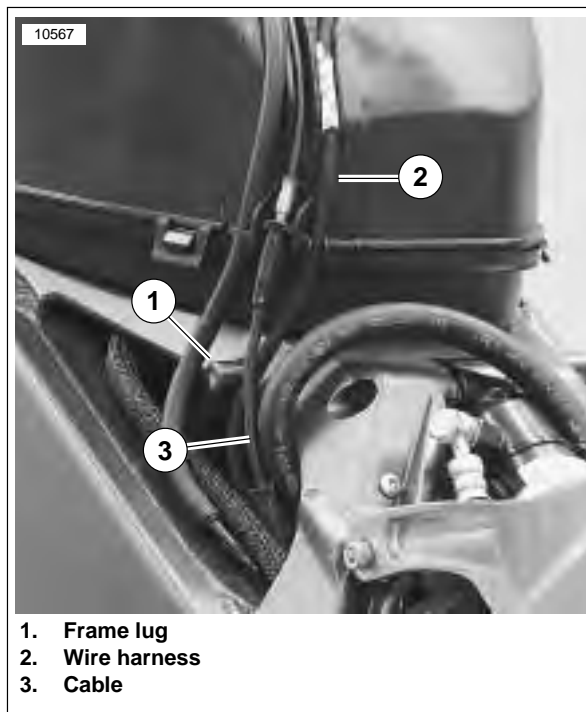

Figure 7-97. Correct Cable Routing Behind Frame Lug
3. See Figure 7-97. Verify that the interactive exhaust cable (3) is routed behind the frame lug (1) before installing air intake cover.